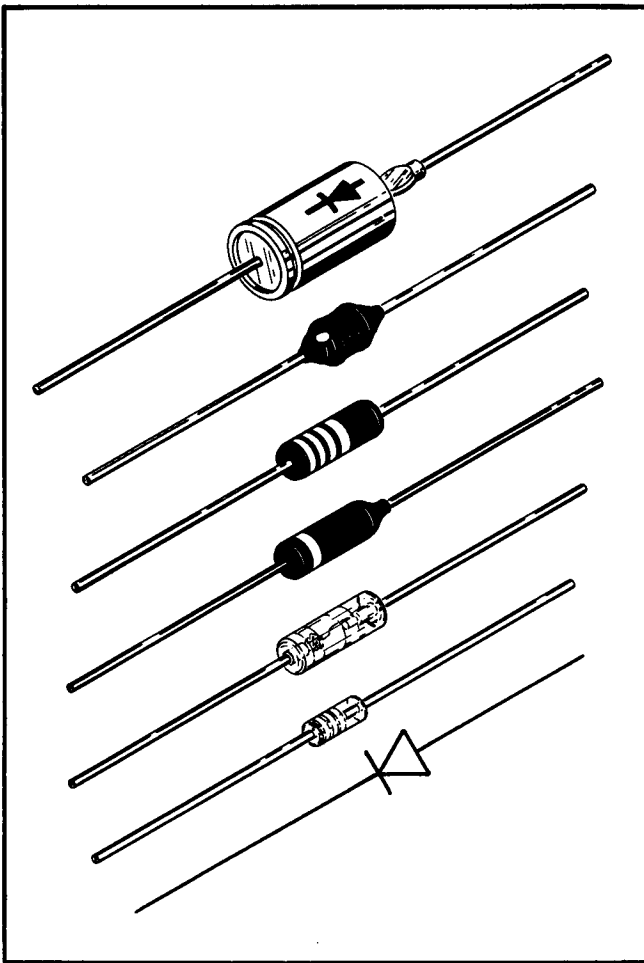

Fig. 6-2. Diode polarity markings.
**Diode Color Code.** The cathode of each glass encased diode is indicated by a stripe, a series of stripes, or a dot. Some diodes have a diode symbol printed on one side. Fig. 6-2 illustrates diode types and polarity markings that are used in this instrument.